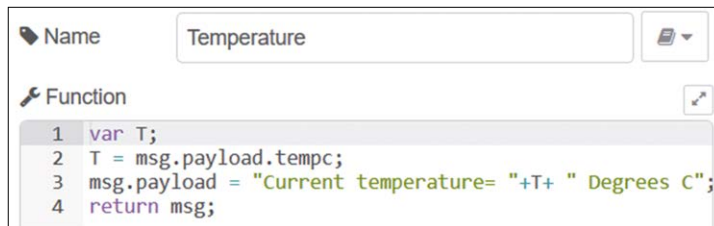

Figure 4.46 Function node contents
- Create a **function** node and name it as **Temperature**. Double click this node and enter the following statements (see Figure 4.46):